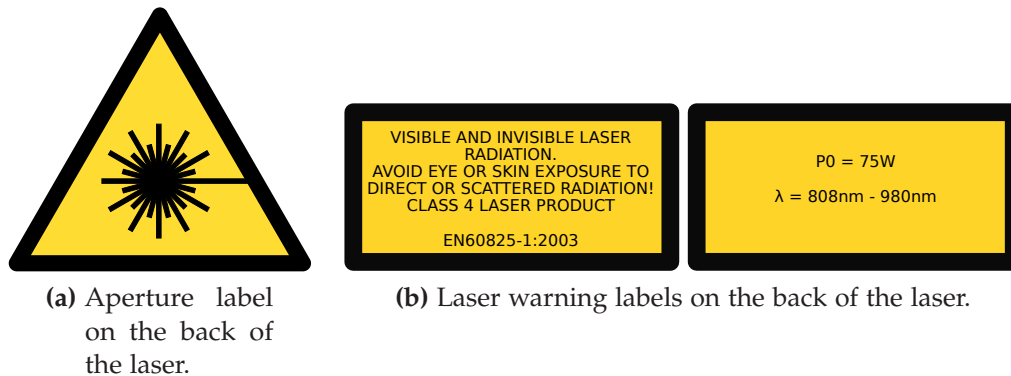

Figure 2.1: Examples for laser warning labels.
4. Be aware of the warning and safety labels (examples are shown in figure 2.1 on page 10).
Figure 2.1 shows examples of the warning labels used in this product and where to find them. Please be aware of them and use caution when working with the laser.